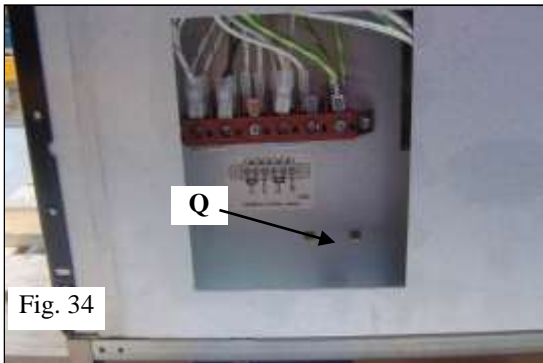

Fig. 34
- Secure the cable by means of cable clamp (no provided), item **Q** (Figure 34).